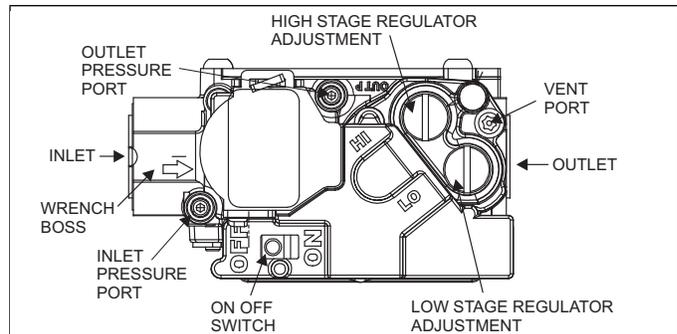

FIGURE 37: Gas Valve
Inlet and manifold gas pressure may be measured by connecting the "U" tube manometer to the gas valve with a piece of tubing. Follow the appropriate section in the instructions below. Refer to Figure 37 for the locations of the pressure ports on the gas valve.
Connect the positive side of the manometer to the OUT P Tap on the gas valve. Do not connect any tubing to the negative side of the manometer, as it will reference atmospheric pressure. Refer to Figures 37 and 38 for connection details.
This gas valve has separate regulator adjustment screws for high fire and low fire, as shown in Figure 37. The procedure below is used to adjust either the high fire manifold pressure or the low fire manifold pressure.
- Refer to Figure 37 for location of pressure regulator adjustment cap and adjustment screws on main gas valve.
- Place jumper wire from W1 to W2 to R on the furnace control board for the furnace to operate HIGH fire. Once correct manifold pressure is set (HI), remove jumper from W2 for the furnace to operate on low fire. Set the manifold pressure (LO) to correct manifold pressure.